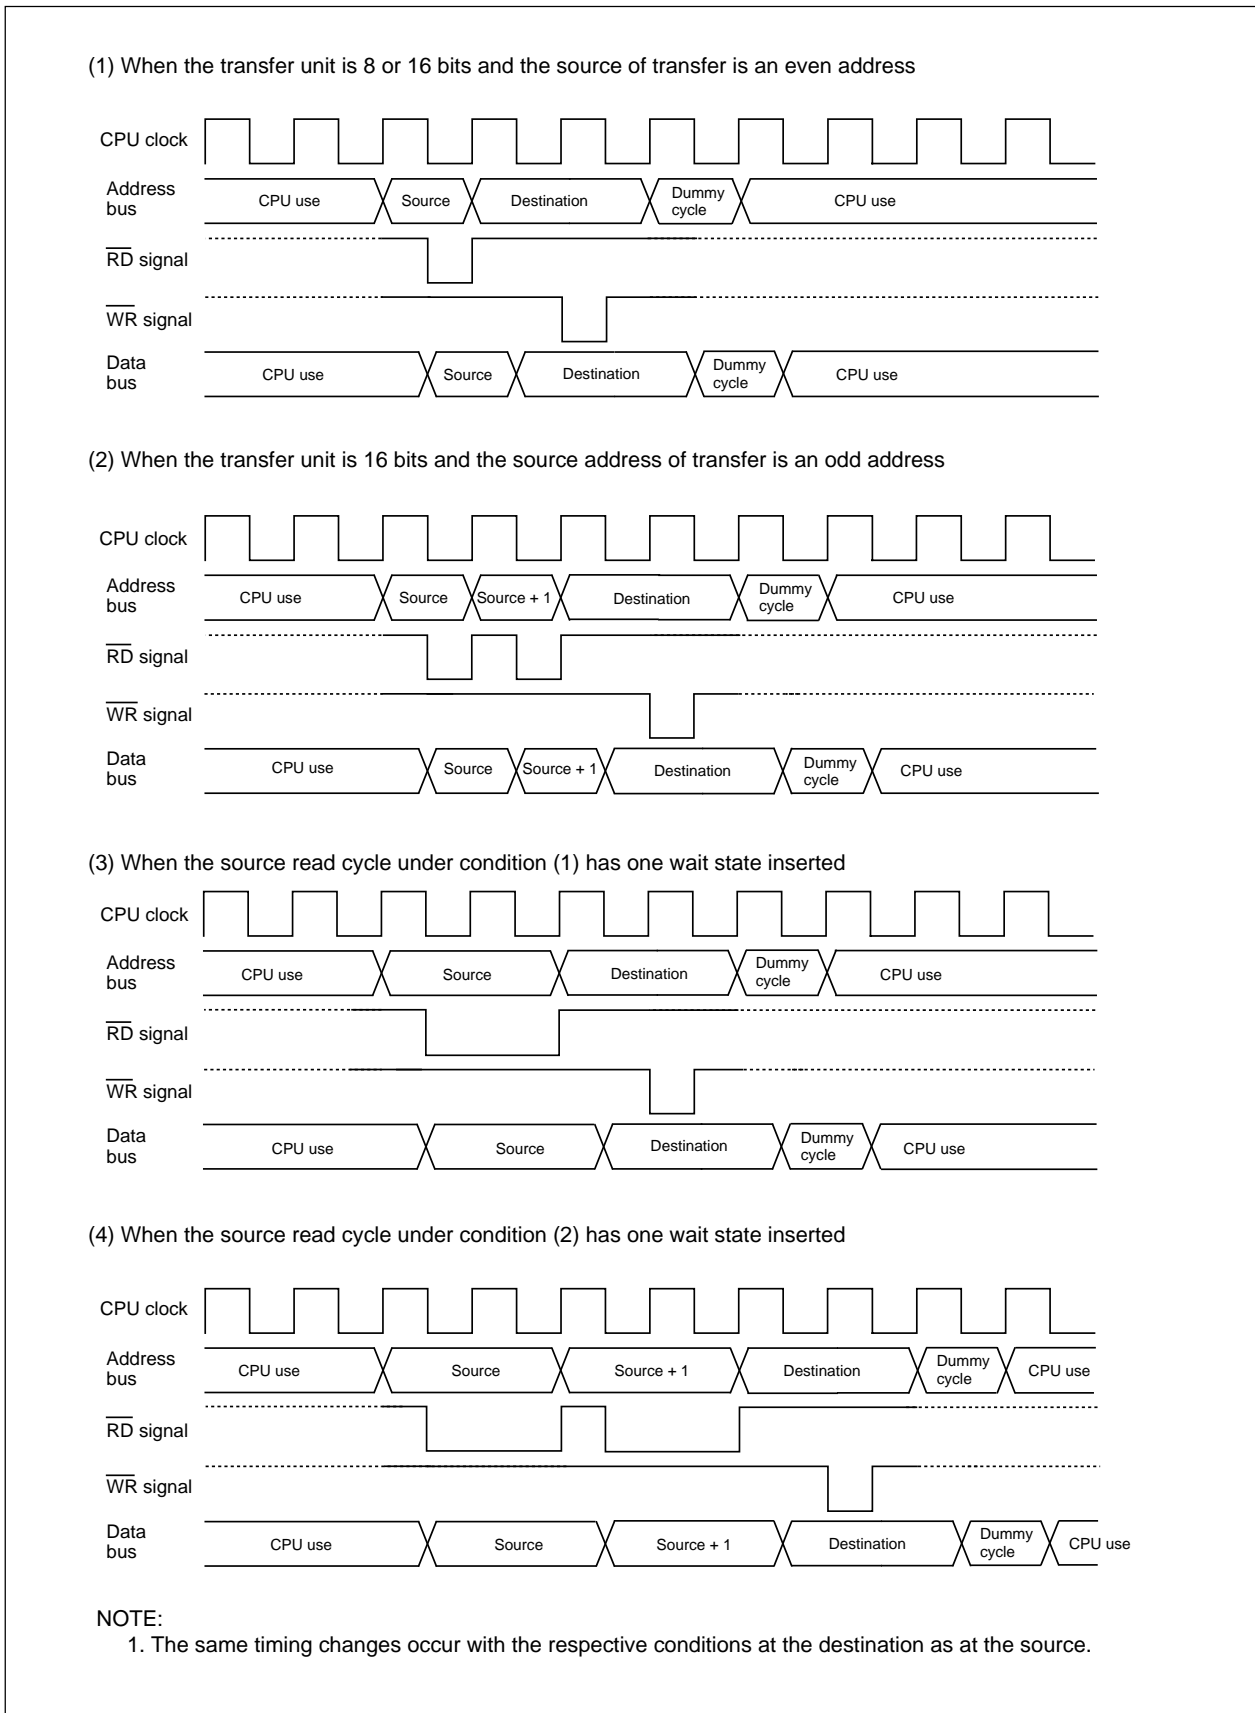

Figure 11.1.1 Transfer Cycles for Source Read
Figure 11.1.1 shows the example of the cycles for a source read. For convenience, the destination write cycle is shown as one cycle and the source read cycles for the different conditions are shown. In reality, the destination write cycle is subject to the same conditions as the source read cycle, with the transfer cycle changing accordingly. When calculating transfer cycles, take into consideration each condition for the source read and the destination write cycle, respectively. For example, when data is transferred in 16 bit units and when both the source address and destination address are an odd address ((2) in Figure 11.1.1), two source read bus cycles and two destination write bus cycles are required.